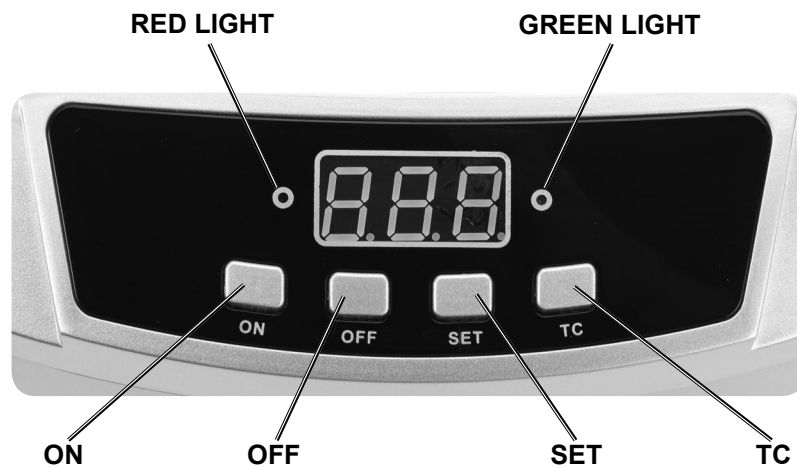

Figure 1: Control Panel
6. Press "SET" to choose a cleaning cycle. Press "ON" to begin the cleaning cycle. The green light on the control panel will light up, indicating that the cycle is on. The time displayed on the LCD readout is the time remaining for the cycle to run. The unit will automatically turn itself off when the readout reaches zero. Refer to Figure 1: Control Panel.